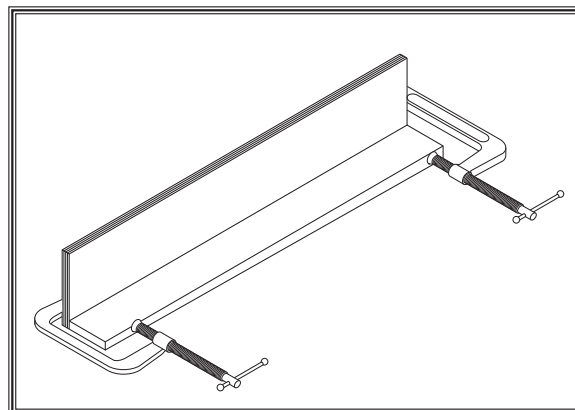

Figure 34. Clamping the resawing barrier.
3. Glue the end of the 3" board, then clamp the boards at a 90° angle with the larger board in the vertical position as shown in **Figure 34**.